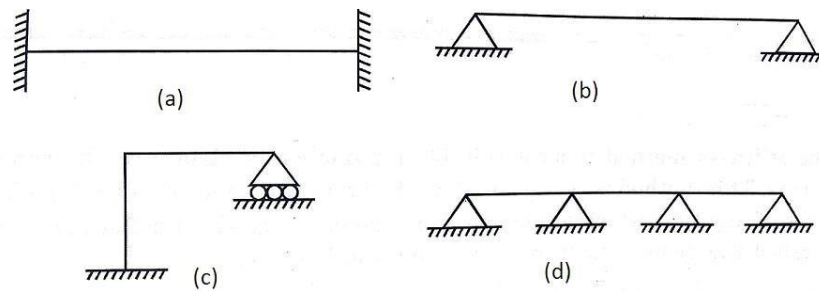

Figure 4.1
1. Determine the degree of statically indeterminacy and degree of kinematic indeterminacy of the beams in Figure 4.1